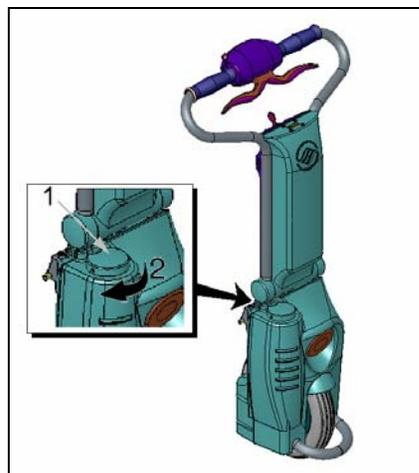

Fig 11
**PARKING BRAKE MANUAL RELEASE** - If for whatever reasons you have the need to push your scooter, the parking brake can be released manually. To achieve this turn the knob at the front right hand side of the tiller to the end of its travel which is about one third of a full turn (fig 11). Buddy is now in a freewheel mode and can be moved about manually. This should all be carried out with the ignition switched off. For obvious safety reasons the scooter is unable to be driven in this state. In addition if the ignition is turned on whilst the brake is in the release position the horn will sound continuously indicating the machine is in an unsafe condition.
- With your hand at the front of the seat, pivot upwards 2/3 inches to the extent of its travel. With the seat base in this position, allow the whole seat to fold down, again to the extent of its travel (fig 11 a b c).